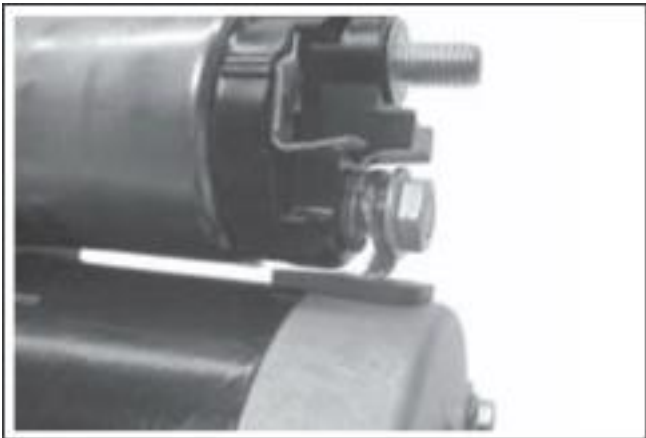

Figure 8-28. Connecting Brush Lead.
14. Connect the braided (brush) lead to lower main solenoid terminal and secure with the hex flange nut. See Figure 8-28.